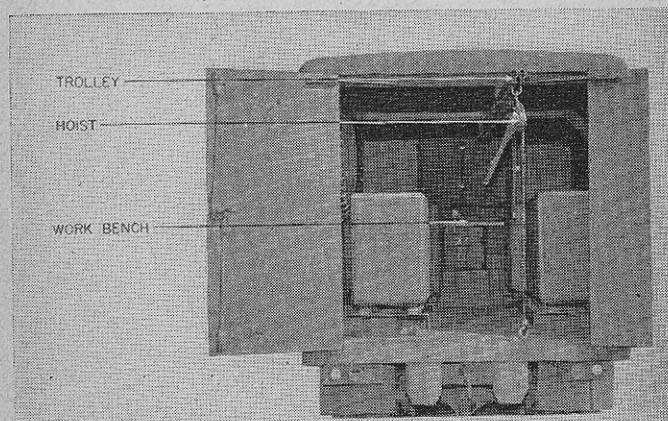

FIGURE 7.—Interior of spare parts van.
heavy equipment. Figure 7 shows the trolley hoist which has a hand operated chain ratchet lift. The lift is shown on the trolley but it is normally carried in a workbench drawer.
b. The workbench shown in figure 7 is equipped with drawers in which are carried maintenance tools, vacuum